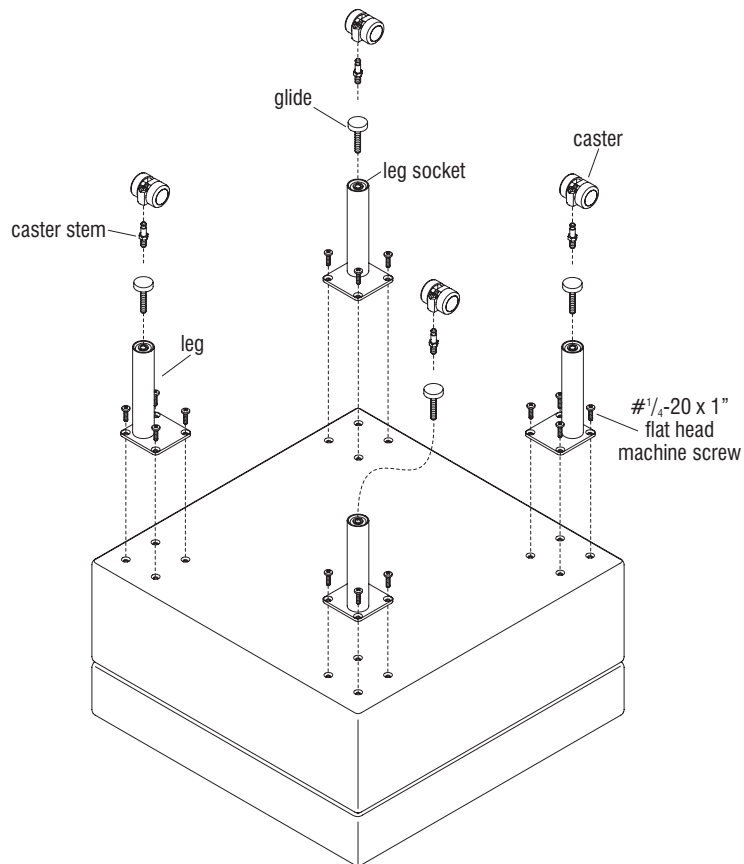

Figure 2
1. Remove the casters or glides as described in the previous steps (Figure 2).
2. Use a phillips screwdriver to remove all $\frac{1}{4}$ -20 x 1" flat head machine screws that fasten the leg to the base (Figure 2).
3. Replace the leg using the same locations and attachment screws (Figure 2).
4. Reinstall or replace the glide or caster (Figure 2).